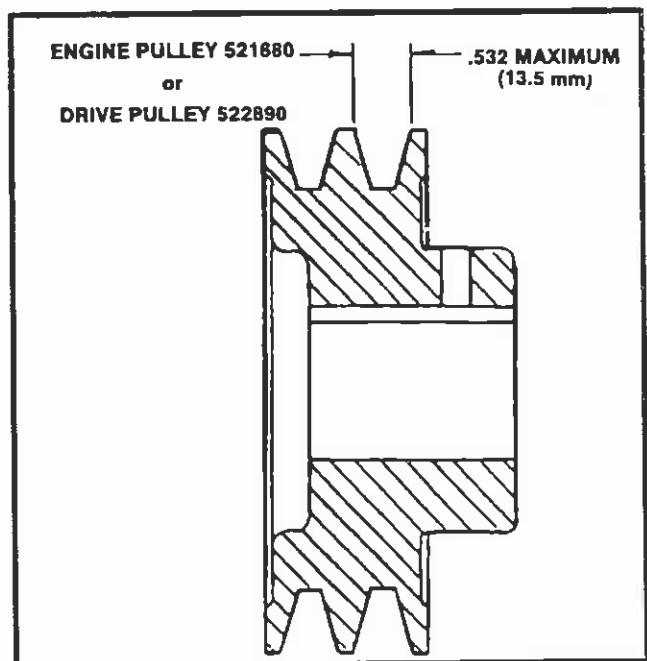

FIGURE 12
- Check pulleys for groove wear. See Figure 12.